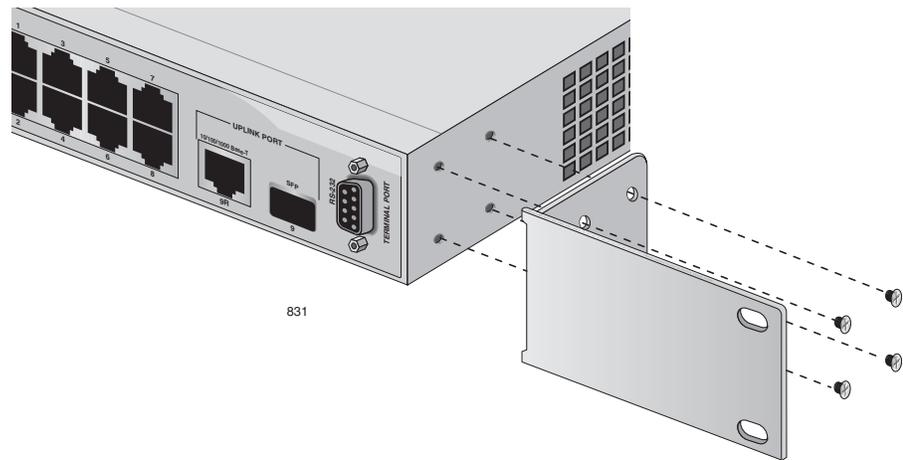

Figure 7. Attaching the Rack-Mount Bracket
2. Install a bracket on one side of the switch using a Phillips screwdriver and four of the rack-mount screws included with the switch, as shown in Figure 7.